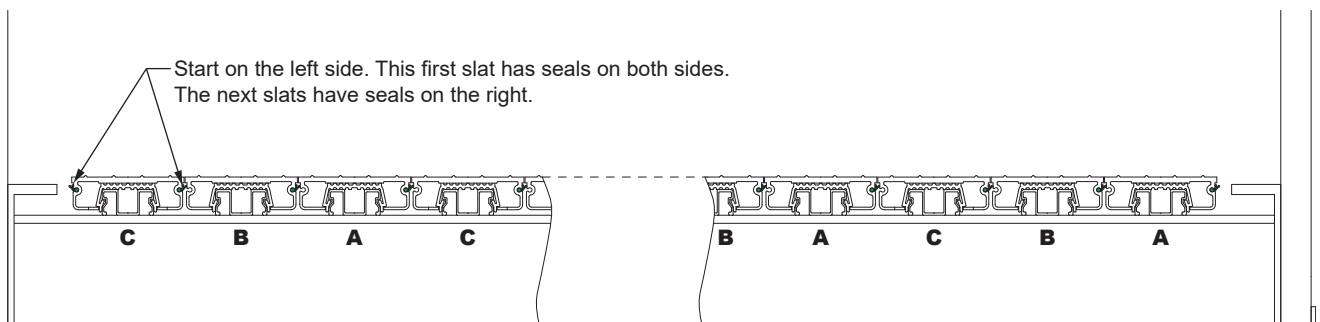

Figure 1
1. Starting from the left and a “group C” slat, slide each slat from the end of the trailer towards the front. Make sure the bevelled edge of the slat goes in first and that each seal points to the right (fig. 1).
3. Continue to install each slat in a C-B-A pattern from left to right (fig. 1).
4. The last slat on the far right will have 2 seals installed. This slat should be installed last (fig. 1).